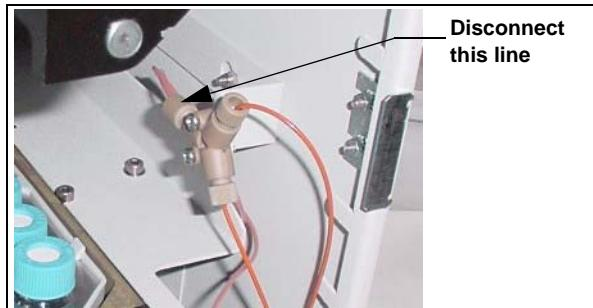

*Figure 5-13. Injection Valve Waste Line Connections for Dual Valves*
2. Insert the waste line from the top injection valve into the larger drain line opening (see Figure 5-13).